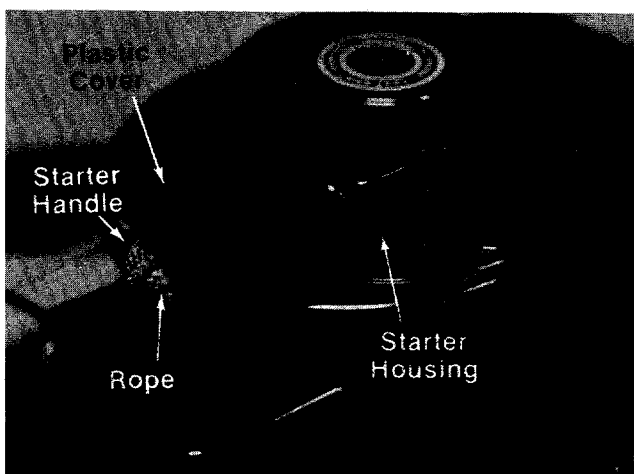

FIGURE 11.
19. The starter rope may be secured with a plastic cover for shipping purposes. Remove the plastic cover and discard. See figure 11.